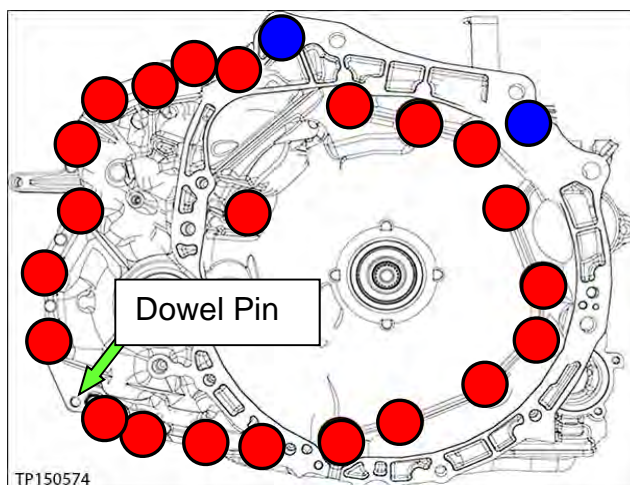

Figure 32
16. Remove all 24 converter housing mounting bolts (see Figure 32).